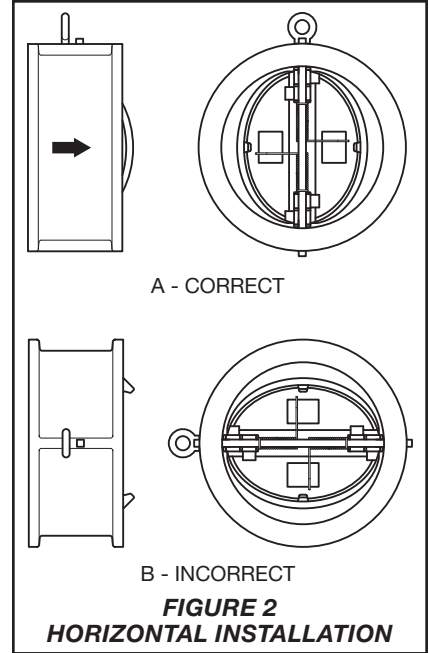

FIGURE 2
- For horizontal installations, the check valve must be positioned such that the discs activate bi-symmetrically, as shown in Figure 2.